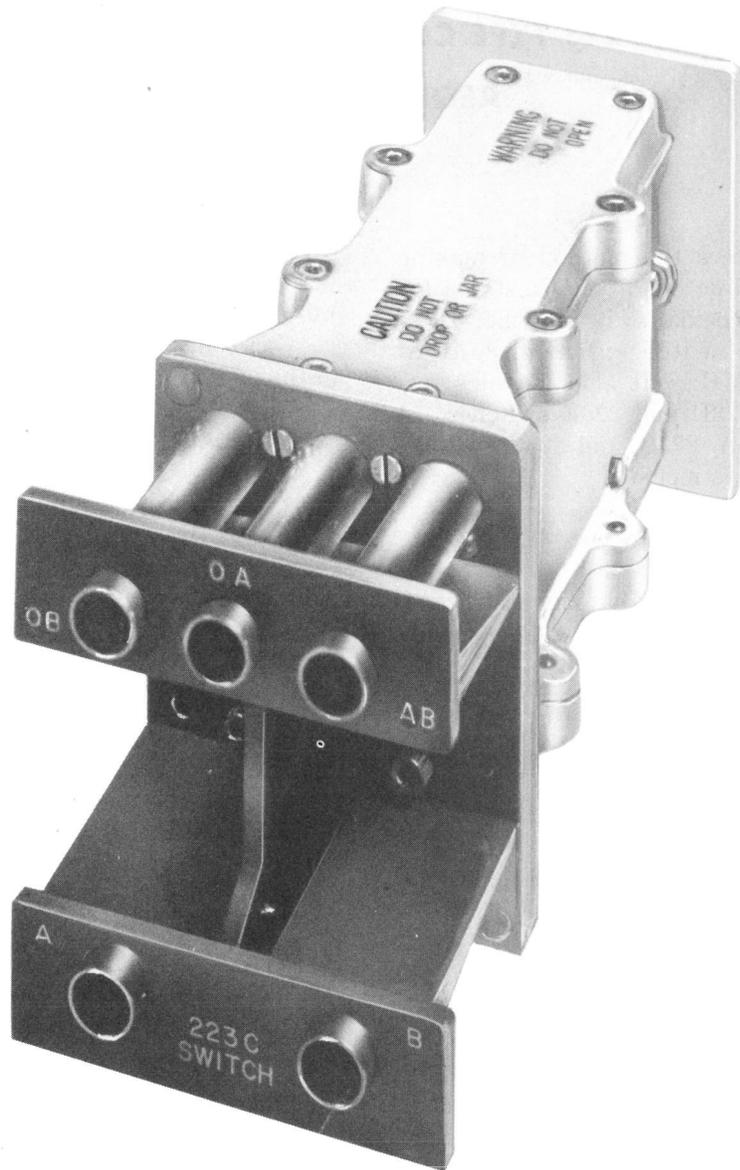

Fig. 1—223C Coaxial Switch, Assembled
- Revise Fig. 1, 9, 11, and 14
1.03 The 223-type switch (Fig. 1, 2, 3, and 4) is a high-speed, electromagnetically operated, coaxial-type transfer switch used for switching 75-ohm lines at high frequencies. The 223A, 223B, and 223C switches are reed-type mercury switches, while the 223D and 223E switches are the dry-reed, sealed contact type. The D and E switches are similar although the D switch is designed to operate at 60 Vdc and the E switch at 24 Vdc.